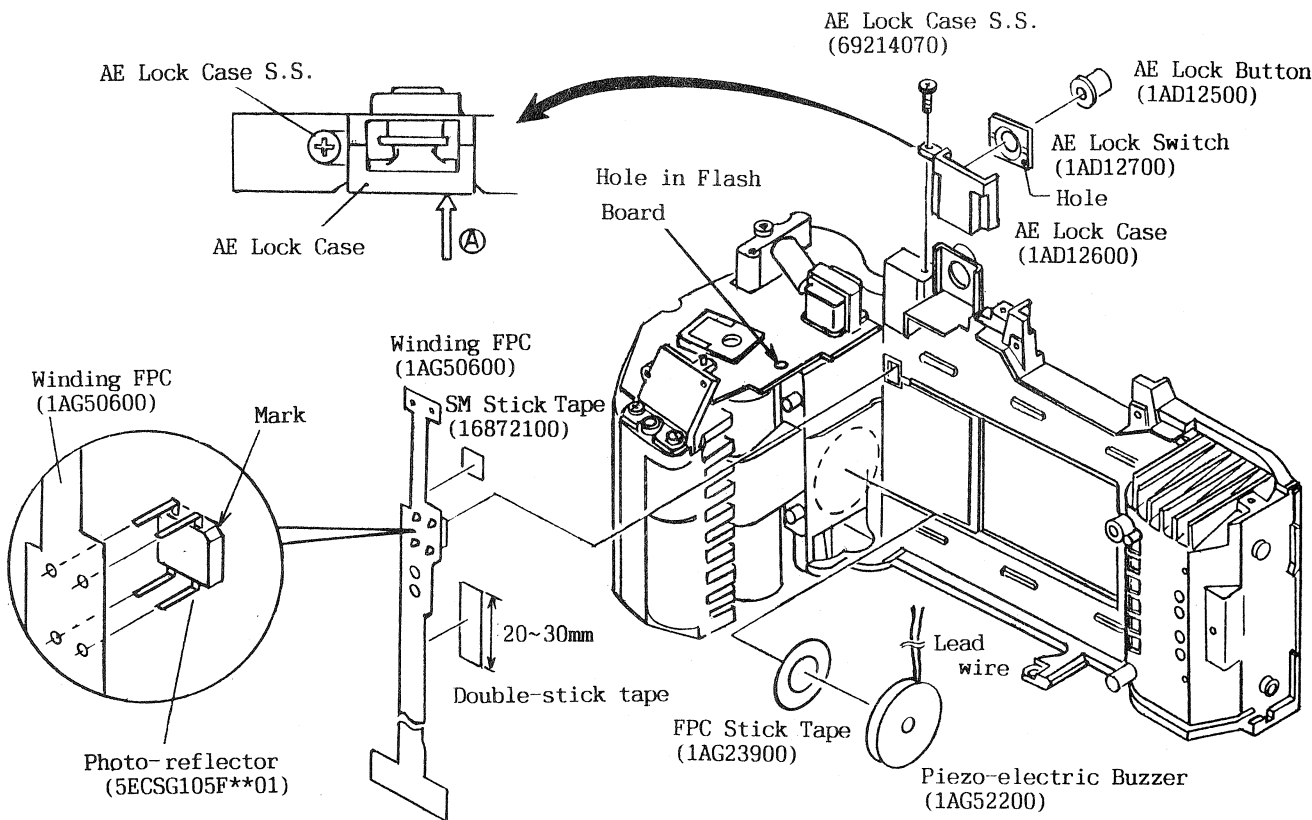

Fig.18
- b) In installing the AE Lock Case, press it in the direction of the arrow and tighten the AE Lock Case Setscrew. (See Fig.18)